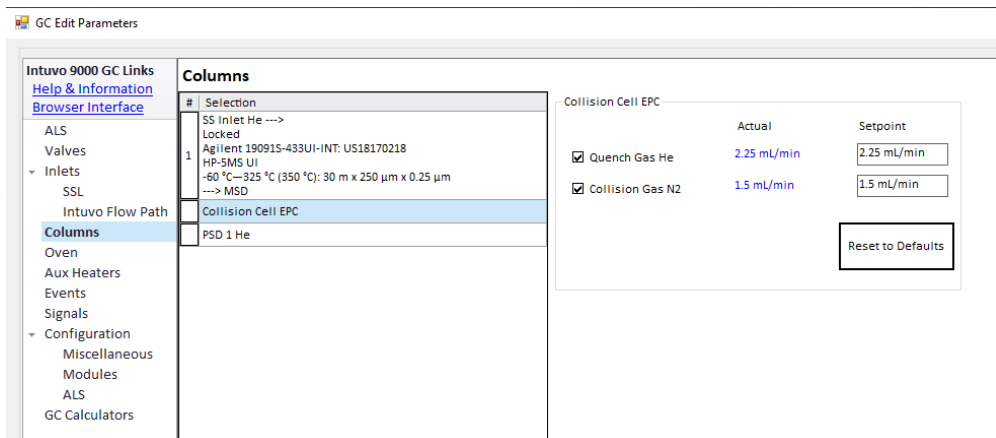

Figure 33. Setting CC gas flow rate
- 2 Click the Columns icon to display the control parameter entry screen for column and Aux flow modules. (See Figure 33 on page 115.)